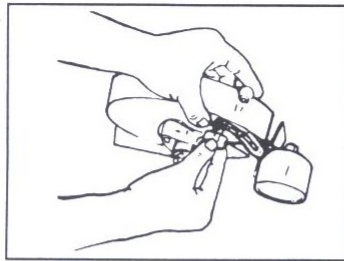

Fig. 1
1. Loosen the 2 cover wing screws and swivel cover. Install the carriage bolt through the housing and secure the wheel bracket assembly with the adjustment knob and flat washer. Make sure the carriage bolt is properly seated through the housing (Fig. 1).